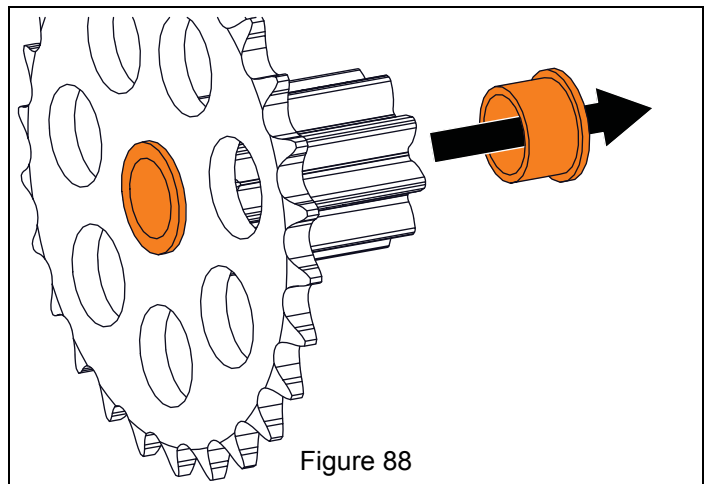

Figure 88
9. Remove flange bushings from pinion gear. See Figure 88.